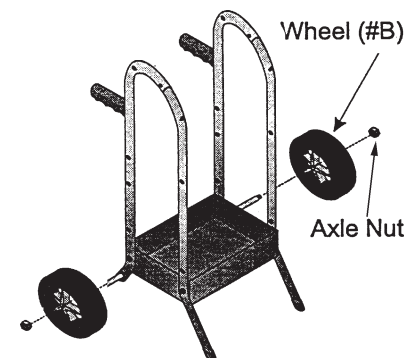

Figure 3. Wheel Installation
5. Assemble the wheels. Slide one Wheel (B) and one Axle Nut per side as in *Figure 3*. Tighten the nuts.